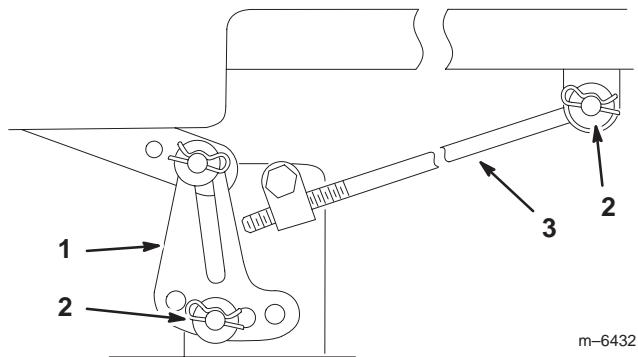

Figure 45
Note: Before removing the mower, make a note for which holes are used in the leveling brackets (Fig. 45).
- Remove the hairpin cotter and washer from the adjusting rod (Fig. 45) on each side of the mower.
- Remove the hairpin cotter and washer at the mower leveling brackets (Fig. 45) on each side of the mower. Note which hole the leveling bracket is mounted in for future installation. Slide the brackets off of the mounting pin.
5. Attach the adjusting rod to the tractor with the washer and hairpin cotter (Fig. 45) on each side of the mower.
6. Slide the leveling brackets onto the mounting pins and secure them with the washers and hairpin cotters (Fig. 45).